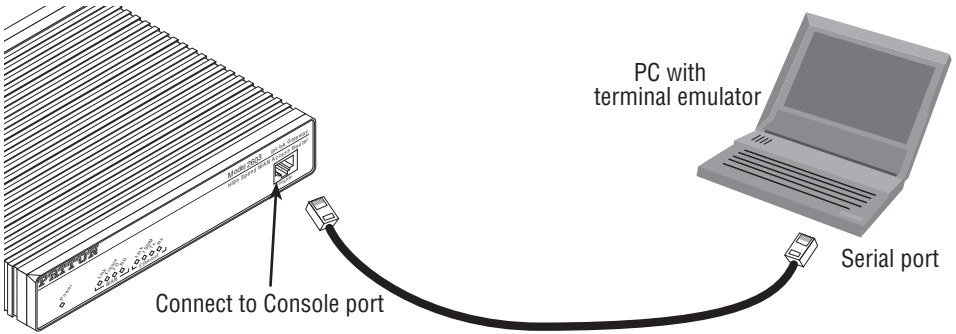

Figure 2. Connecting OnSite router to the PC's serial port
1. Using the included combination RS232/Ethernet cable and DB9-RJ45 adapter, connect a PC's serial port to the OnSite router's *Console* port (see figure 2).